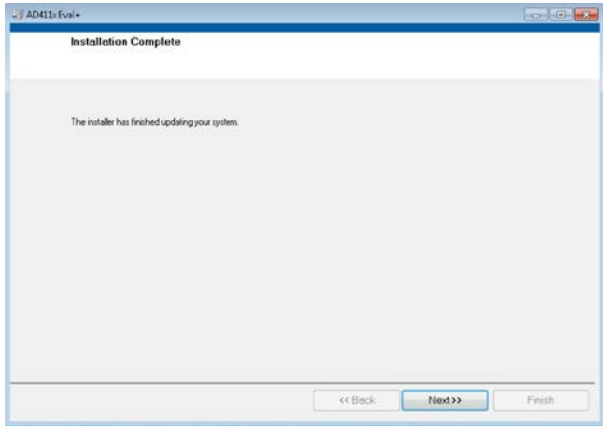

Figure 7. Indicating When the Installation is Complete
7. The message in Figure 7 appears when the installation is complete. Click **Next**.